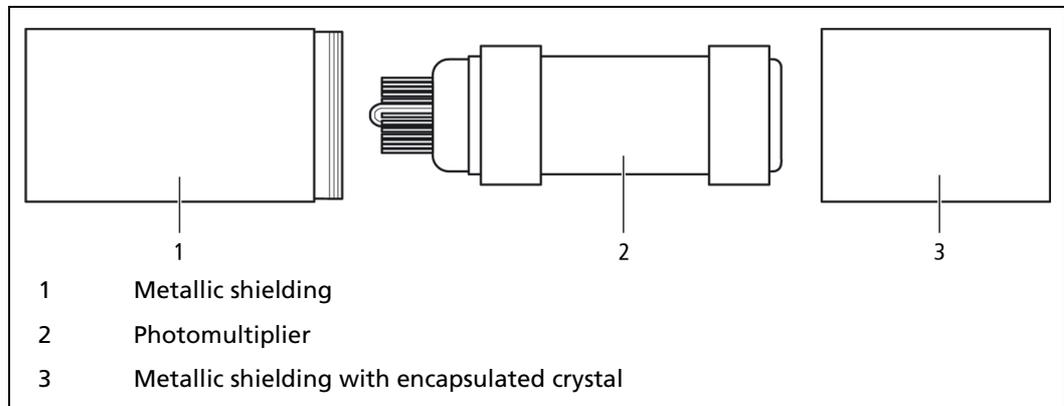

Fig. 38 GAMMAcast detector LB 6739 CsI 40/50, PMT removed
7. Pull the PMT (Fig. 38, pos. 2) out of the metallic shielding.